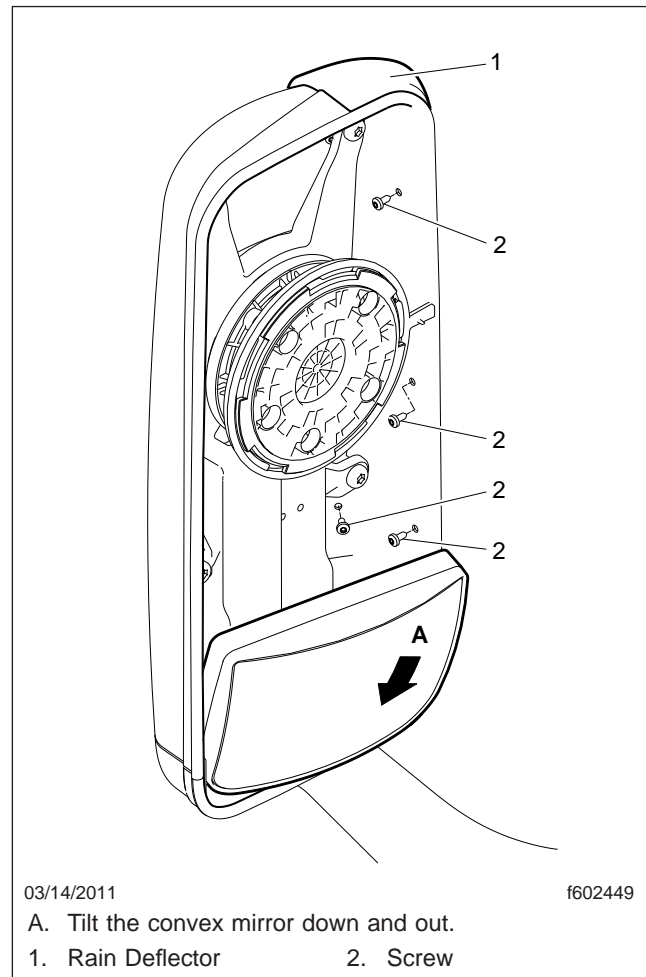

Fig. 6, Installing Remaining Screws
9. Tilt the back cover into place, then carefully install the other deflector mounting screws; see Fig. 6.